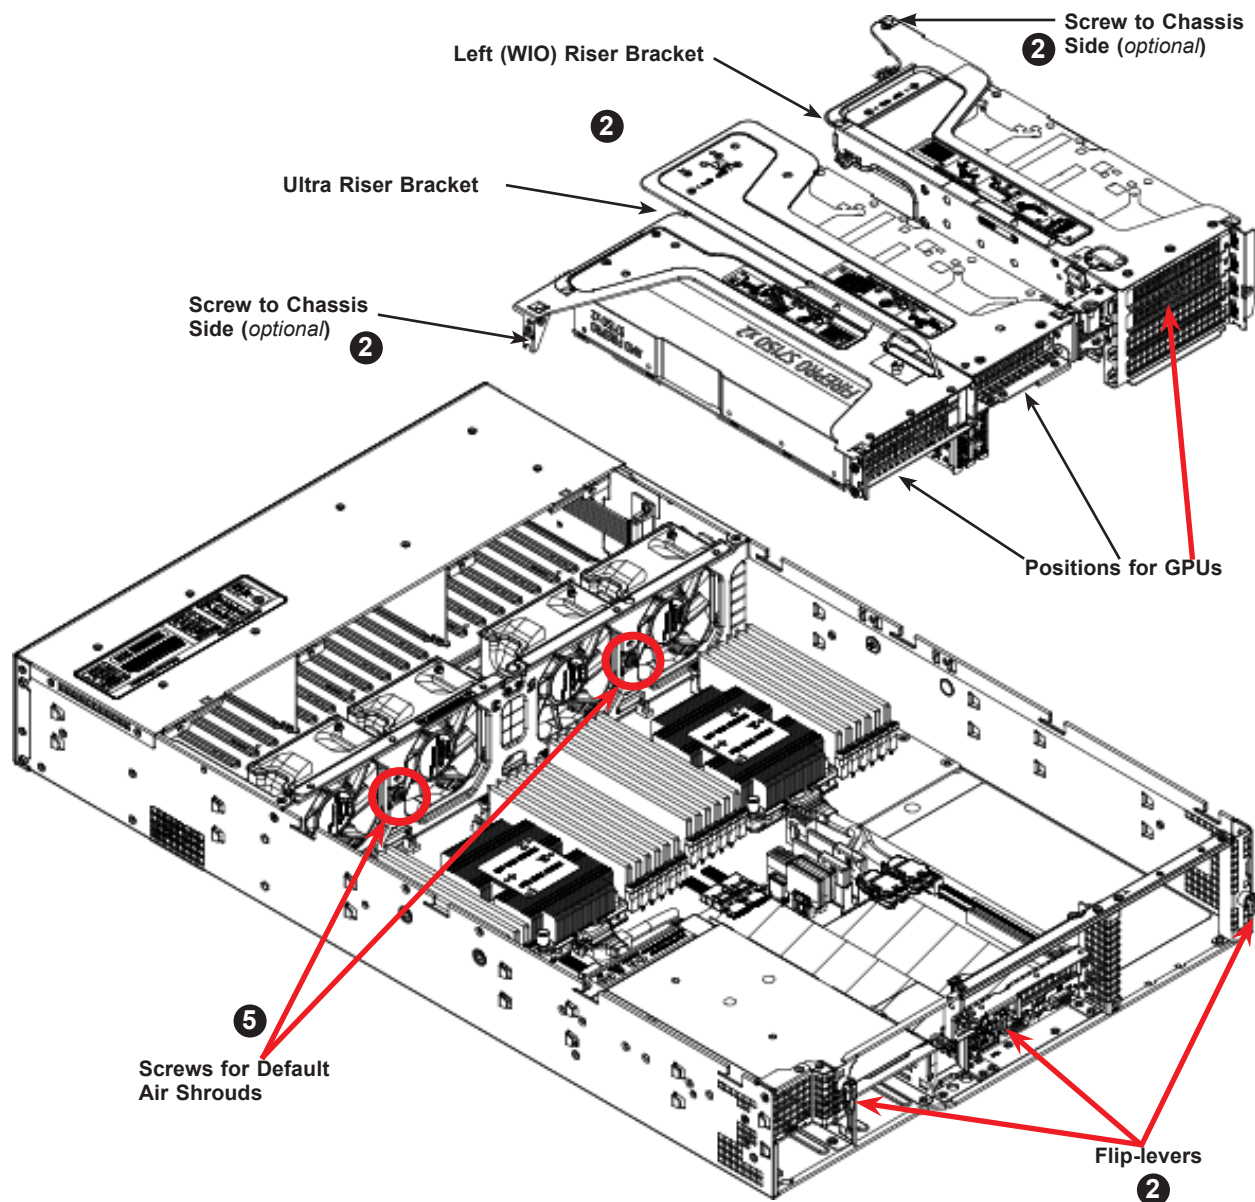

Figure F-2. Riser Cards and GPU Positions
5. Remove the two screws on the fan housing that secure the default air shrouds. (See Figure F-2)